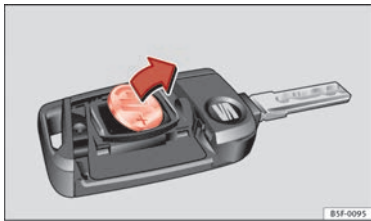

Fig. 47 Vehicle key: removing the battery
- Extract the battery from the compartment using a suitable thin object ⇒ Fig. 47.
- Place the new battery in the compartment as shown ⇒ Fig. 47, pressing in the opposite direction to that shown by the arrow ⇒ ②.